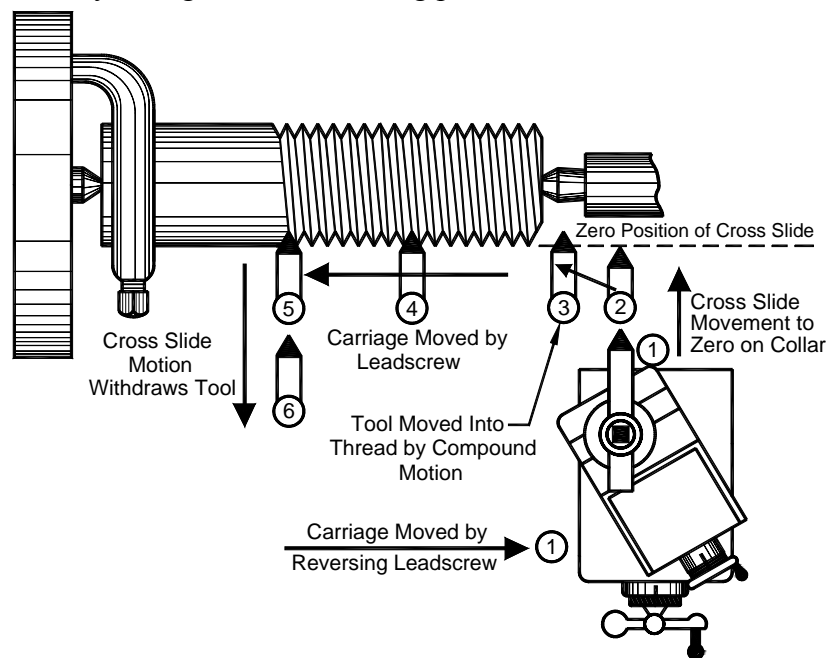

Figure 7–140. Completing the threading process.
19. Tables in *Machinery's Handbook* show the final thread depth for all common thread forms. This depth can be read off the compound collar and can be checked using a threading micrometer. Also, inch thread center gages have the thread depth for various tpi engraved on them. See Figure 7–132. Not having this information at hand, the operator can watch the thread develop until the width at the thread bottom (root) just about equals